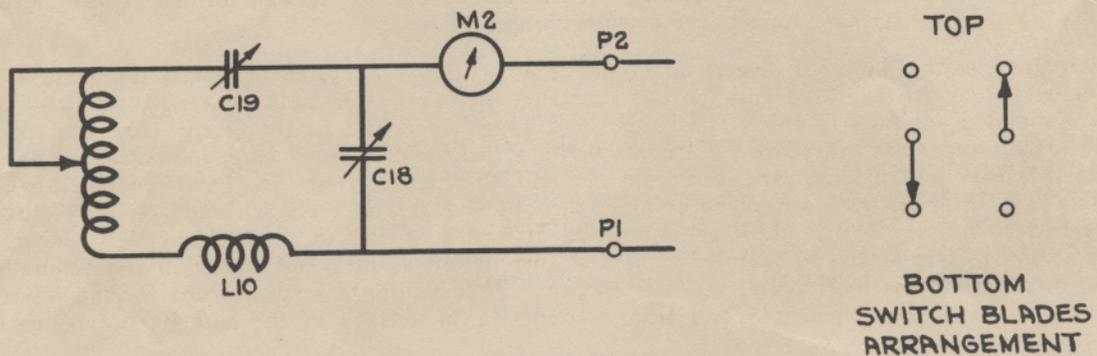
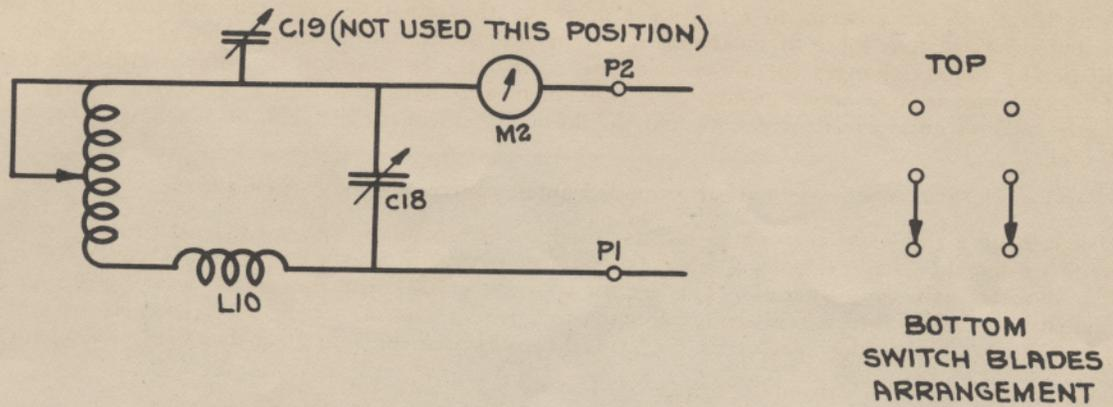
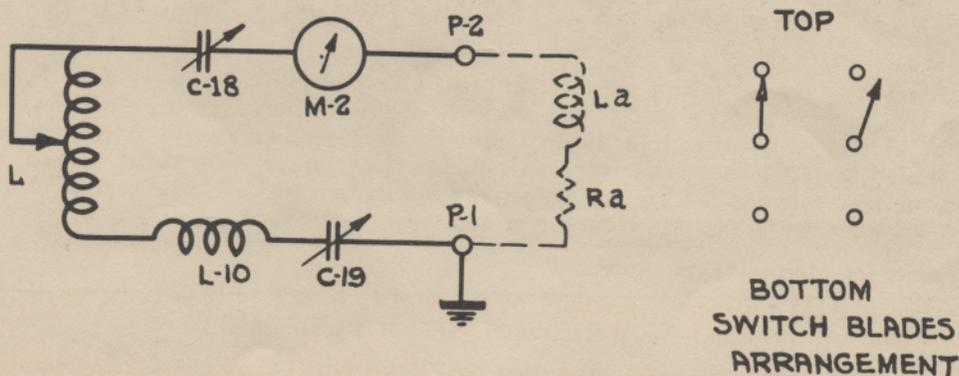

Figure 7—Combination Connection for Antenna Unit
Figure 8—Parallel Connection for Antenna Unit
Figure 9—Series Connection for Antenna Unit
The circuit of Figure 7 is a convenient one for matching the load presented by the lamp. An observation of this circuit shows that the voltage across the load resistance is inversely proportional to the capacitance, or it is directly proportional to the reactance of C_{18} . This circuit may be used to feed a low-resistance antenna or a relatively high-resistance one. It is also possible to use this circuit to match a transmission line. When C_{18} is set for maximum capacity (zero dial) the voltage developed across it and the load is small, and as the capacitance is decreased the reactance increases as does the voltage across it. When the load impedance at the antenna posts 1 and 2 is equal to the impedance of the circuit C_{18} , L , C_{19} , the maximum transfer of energy to the antenna load occurs. The impedances are matched by varying C_{18} , L , C_{19} , and the coupling can also be varied by the position of the rotor coil. It is evident from the figure that when the capacitance of C_{19} is near a maximum, especially so at the higher frequencies, its reactance is fairly small, and in order to tune the circuit to resonance, C_{18} must have high reactance or low capacitance. The circuit is then suitable for feeding a high-resistance load or for voltage feed for a rather high-impedance antenna. For very high-impedances or voltage feed, the parallel connection of Figure 8 should be used. For low-impedance antennas or loads, the series-tuned connection, as shown in Figure 9, is usually easier to tune than other methods. In the case of the 80- or 160-meter bands, it is advisable to keep the inductance in the antenna-loading coil as small as possible and to use the condensers with as much capacity as possible. This minimizes chances for sparking over of the antenna capacitors where high voltages are developed in some cases, due to the high reactance of the circuits used.
1. Throw the plate-voltage switch to the "Off" position and throw the right-hand arm of the antenna changeover switch so as to make contact with the upper right switch-jaw. Throw the left-hand blade down so as to make contact with lower left-jaw. This gives the circuit of Figure 7.
When the impedance of the combination of $L, L_{10}, C_{18}, C_{19}$ (Figure 9) is equal to the impedance of $L_a + R_a$, but of opposite sign, the system is properly tuned and the maximum energy is transferred to the antenna, for the degree of coupling used. Under these conditions, the resistance of the antenna circuit is reflected back to the P. A. as a pure resistance and is equivalent to adding a series resistance directly in the P. A. tank circuit. The value of this reflected resistance is adjusted by the degree of coupling until the P. A. draws about 125 milliamperes. The dial setting of the P. A. should be close to that obtained when tuned but unloaded, because the frequency of a circuit is dependent on the value of L and C and is not affected appreciably by resistance in the circuit. The series tuning circuit of Figure 9 is probably the simplest to tune for either an inductive, resistive or capacitive antenna. An inspection of Figure 18 shows that it is possible to use practically any portion of the loading coil by shifting the position of the shorting wire.
If the transmitter is not located at a current maxima but rather at a current node, then parallel tuning, Figure 8, or the potentiometer arrangement (Figure 7) should be used.
If the impedance of the antenna feeders is too low for efficient transfer of energy by parallel tuning and the circuits cannot be resonated for the series connection, the potentiometer arrangement (Figure 7) should be used. Set the switches for this position and the right-hand capacitor at about 100. The coupling should be loose. Rotate the left-hand capacitor until maximum antenna current is indicated with the P. A. tuned for